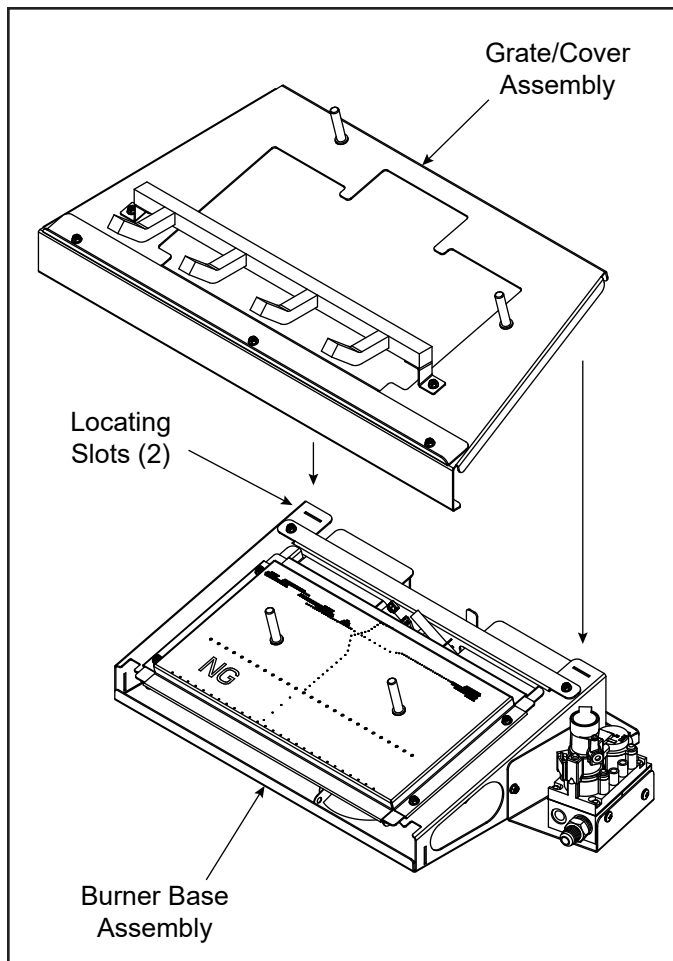

Figure 9.2 Grate/Cover Installation
2. The front edge of the Grate/Cover Assembly should rest evenly on the floor of the fireplace. This will position the assembly front to back and side to side. See Figure 9.2.